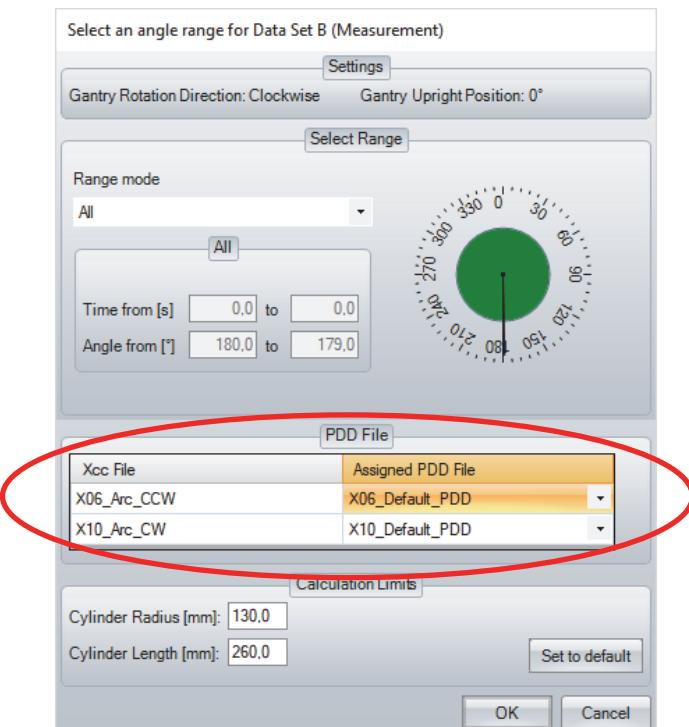

Figure 7: Definition of different PDD files for added measurements with multiple energies.
- ▶ The dialogue *Select an angle range for dataset A/B* appears. Perform the dose reconstruction as desired and define the energy (PDD file) for each of the loaded measurement files (see Fig. 7).